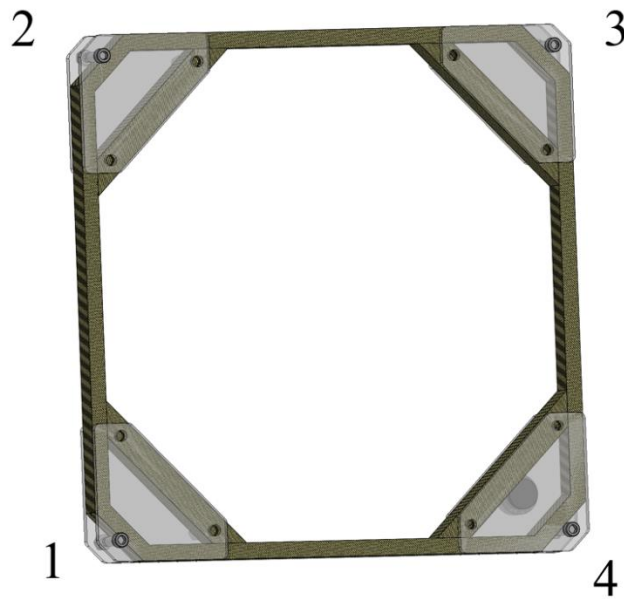

Figure 5.2
10. Epoxy the Outer Angle Brackets (THOA001) and Inner Angle Brackets (THOA002) in the configuration shown in Figure 5.2. The holes in the Brackets should line up to the holes through the acrylic sheets and braces. One of the Inner Angle Bracket faces will be epoxied to the Corner Support for Plug. Each corner should have one Bracket Pair epoxied to it as shown in Figure 5.2. Immediately after putting the epoxied angles into place, bolt through the Angle Brackets, Acrylic Supports, and Braces using four 2.5" 3/8-16 bolts (PN OUTS003) and four 3/8-16 nuts (PN OUTS004). Ensure that the bolt heads are on the same side as the bolt heads already in the assembly. See Figure 5.2 for reference. The epoxy should still be wet when these are bolted in.